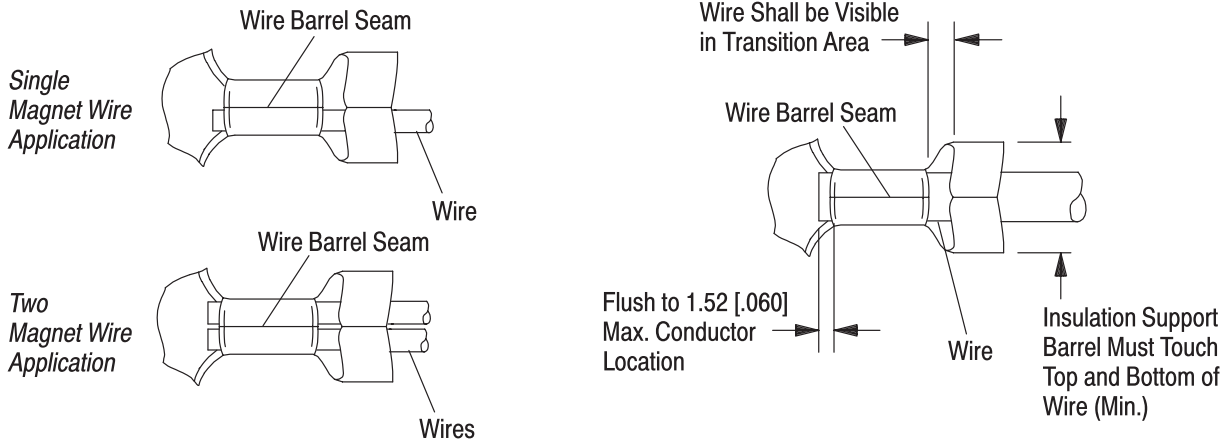

Figure 3
- Deleted Figure 2 and table in Figure 3 and renumbered
A single magnet wire must lie on the bottom of the wire barrel parallel to the wire barrel seam. In a two magnet wire application, the wires must be positioned side-by-side in the wire barrel, as shown in Figure 3.
After crimping, the magnet wire must be within the limits provided in Figure 3.